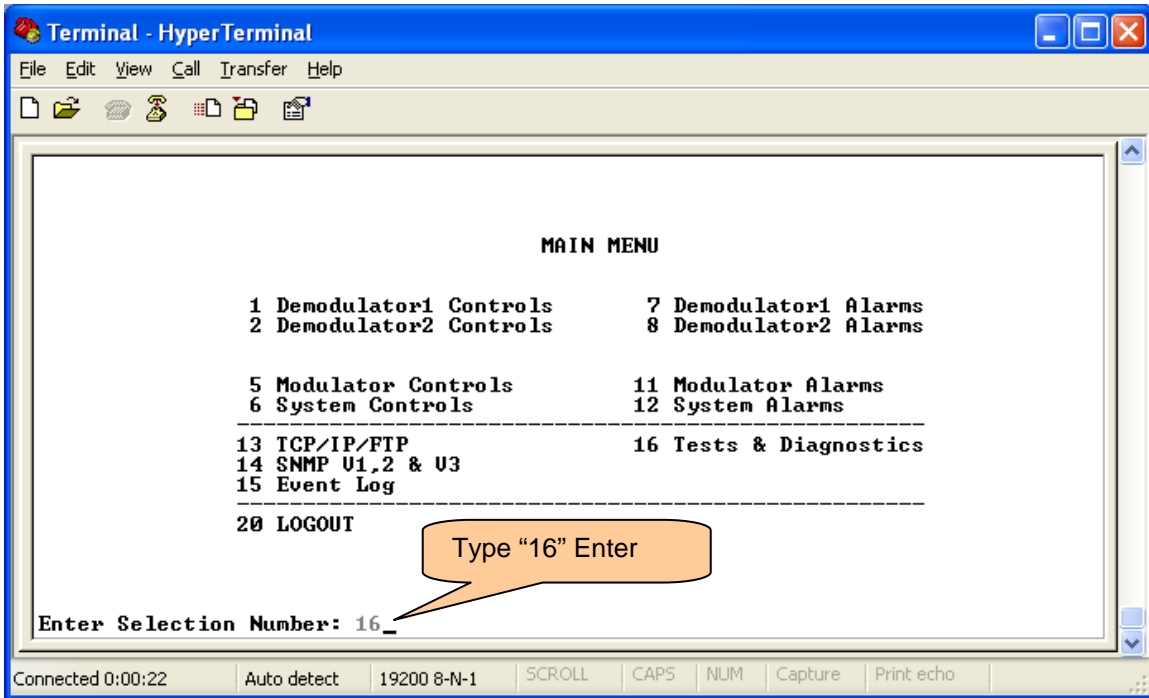
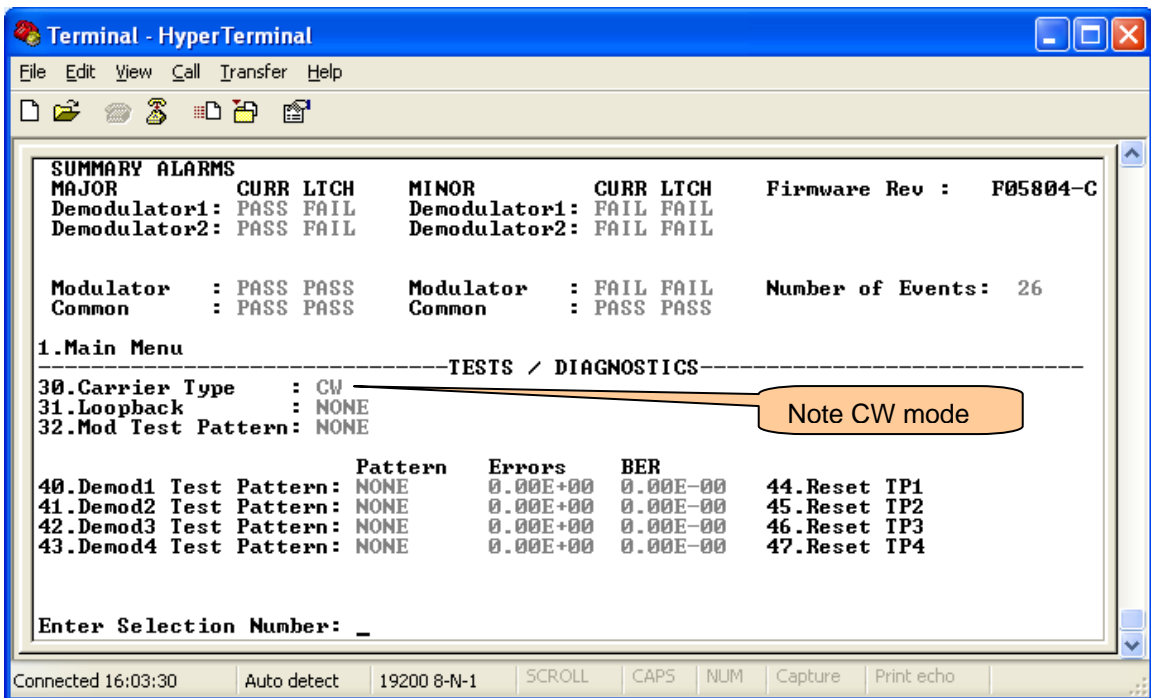

Figure 10 – 16 Tests and Diagnostics
Figure 13 – CW (Pure Carrier) Mode
1. Put the source unit carrier type into CW mode see Figure 10 through Figure 13.